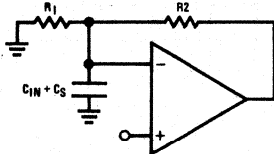

FIGURE 2
**Input Capacitance:** The input capacitance, CIN, of the LM146 is approximately 2 pF; any stray capacitance, CS, (due to external circuit layout) will add to CIN. When resistive or active feedback is applied, an additional pole is added to the open loop frequency response of the device. For instance with resistive feedback (Figure 2), this pole occurs at 1/2π (R1||R2) (CIN + CS). Make sure that this pole occurs at least 2 octaves beyond the expected -3 dB frequency corner of the closed loop gain of the amplifier; if not, place a lead capacitor in the feedback such that the time constant of this capacitor and the resistance it parallels is equal to the R1(CS + CIN), where R1 is the input resistance of the circuit.